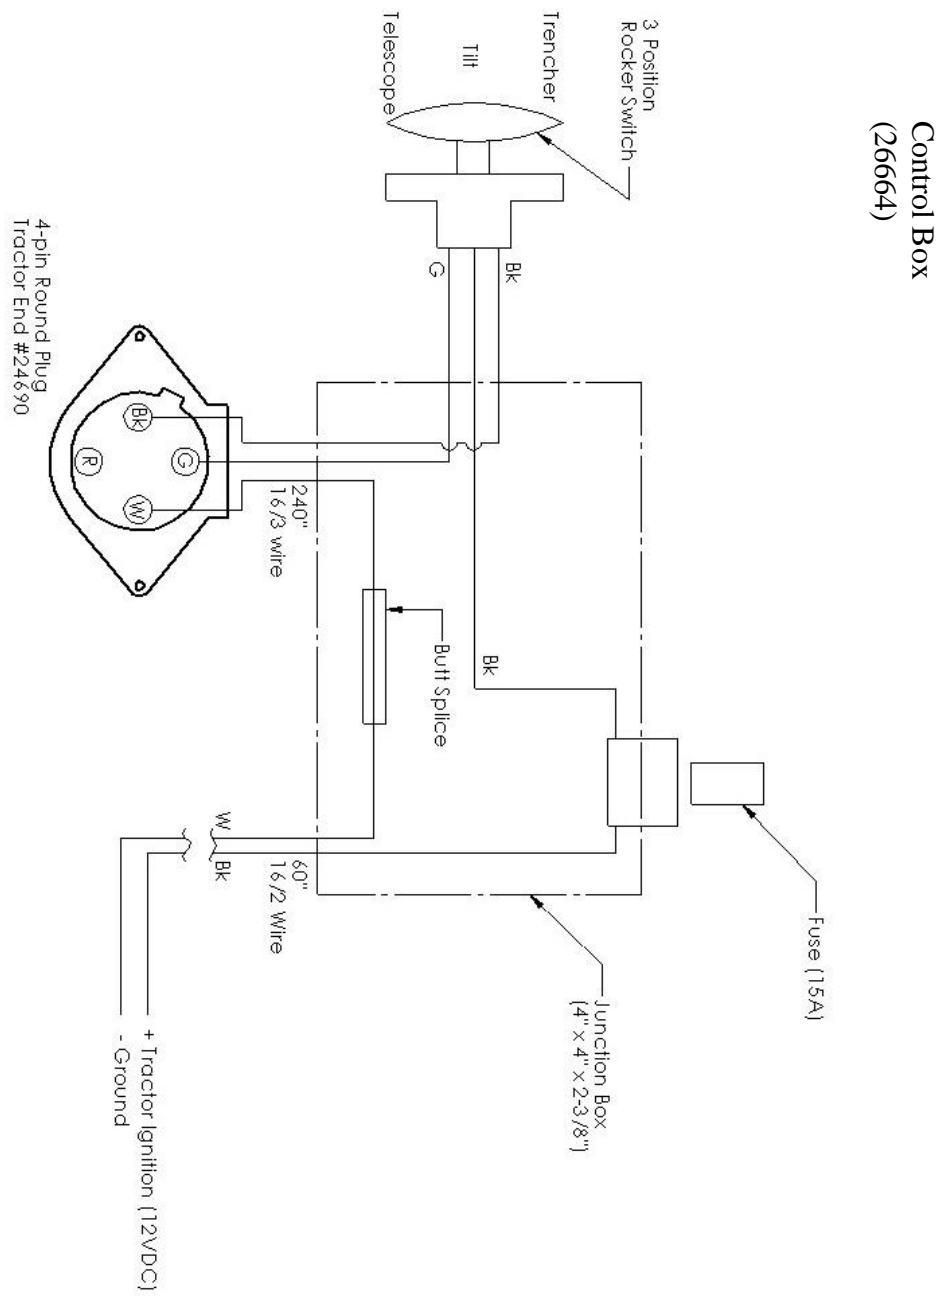

Figure 5 - Diverter plug wiring diagram
- d) Connect main harness (28699) to wishbone harness (28652) as shown in figure 5
- h) Connect main harness (32256) to wishbone harness (32255) as shown in figure 5